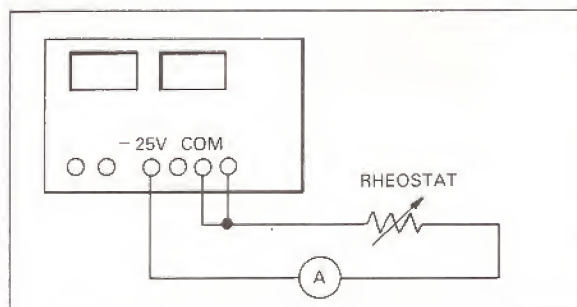

Figure 7-2.
- b. Connect a known calibrated ammeter and a 12.5W (25W for the LPS-152) rheostat as shown in Figure 7-2.